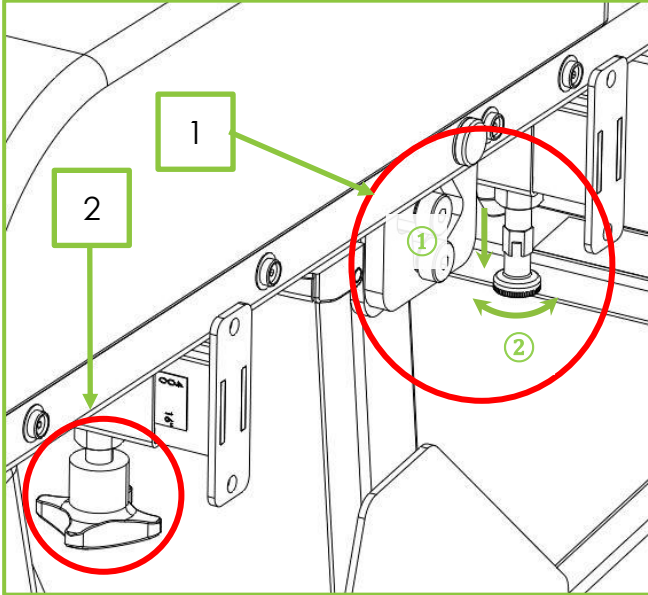

Figure 6
1. Remove the chair sidepieces. Pull out the locking plunger (Fig 6, Item 1) located under the seat of the chair on each side and rotate 90 degrees to lock it open. Release the hand screw (Fig 6, Item 2) on each side of the chair. Pull the sidepieces away from the chair.
15. Refit the sidepieces. To fit the sidepieces, pull out the plunger located under the seat on one side of the chair (Fig 6, Item 1) and rotate it through 90 degrees to lock it open.
16. Undo the hand screw (Fig 6, Item 2).
19. Tighten the hand screw to secure the sidepiece (Fig 6, Item 2).